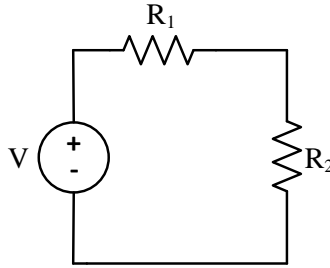

Figure 5. Voltage Divider with Two Series Resistors.
Using a breadboard, assemble the network shown in Figure 5. Using the DMM as a voltmeter, adjust the supply voltage, V , from the DC power supply, to obtain ten volts. For R_1 use the resistor from step 7
9. If both resistors were exactly the nominal value, calculate what the voltage would be across each of the resistors in the circuit in Figure 5.